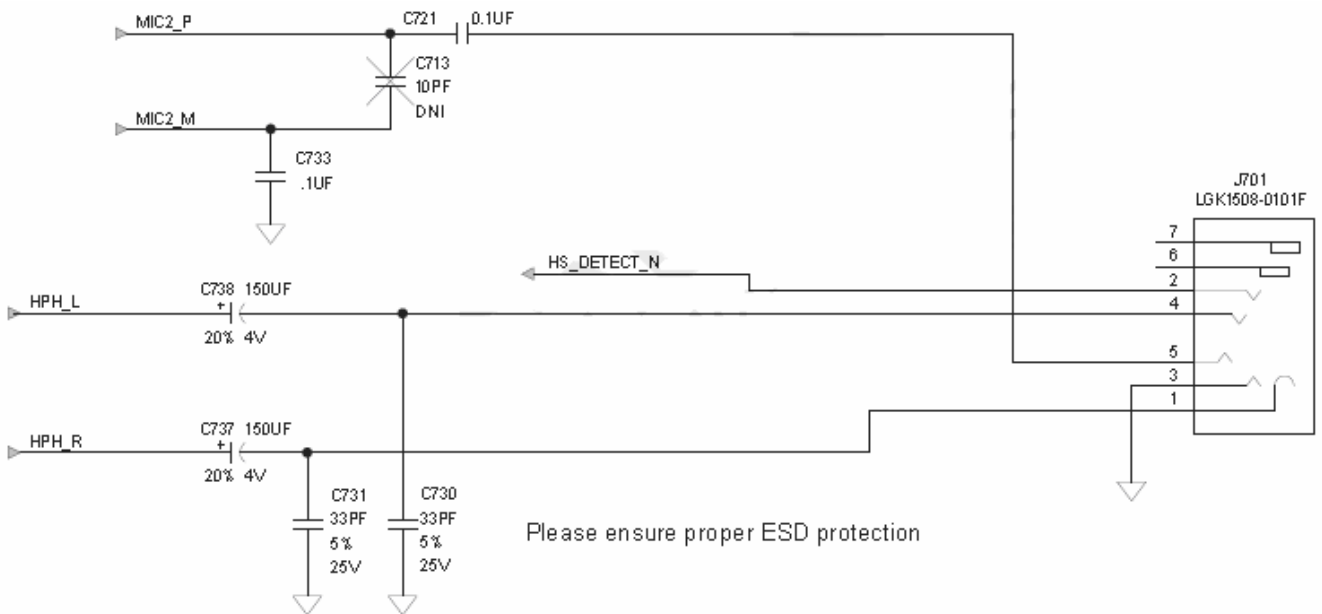

Figure 2-9 The reference circuit of earphone jack
- 2) To get more flat Micro SD card power supply, it is recommended to use filter capacitors. Just like C307 and C308 in Figure 2-9, and the reference values are 33pF and 100nF.
- 1) It is recommended to use the smoothing capacitor or smoothing circuit for reducing the undesired signal between different frequency bands. Just like what is shown in figure 2-9.